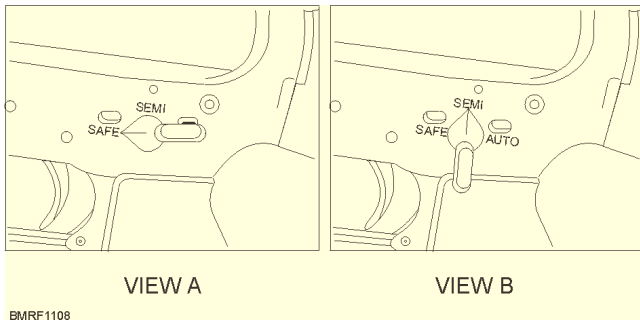
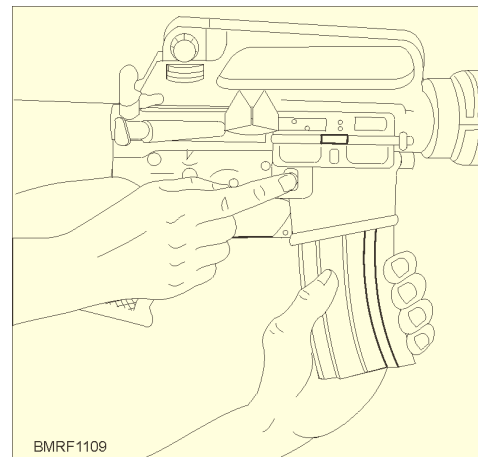
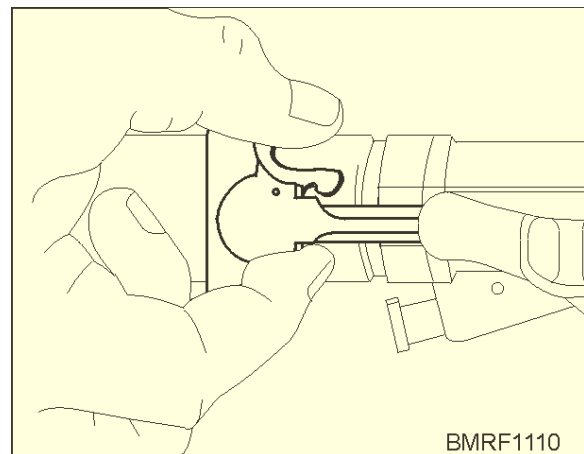
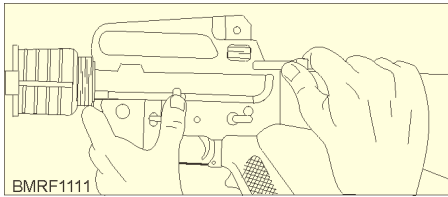

Figure 11-8.—Selector lever pointing to SAFE.
Figure 11-9.—Removing the magazine.
Figure 11-10.—Pulling the charging handle rearward.
Figure 11-11.—Locking the bolt open.
1. Point the selector lever toward SAFE (fig. 11-8, view A). If the weapon is not cocked, the selector lever cannot be pointed toward SAFE. If that is the case, do
2. Remove the magazine (fig. 11-9). Grasp the magazine with the left hand (fingers curled around the front of the magazine, thumb placed on the magazine catch button). Use your right hand and apply pressure on the magazine catch button with the thumb and pull the magazine straight out of the weapon.
3. Lock the bolt open (figs. 11-10 and 11-11). Grasp the charging handle with the thumb and forefinger of the right hand, depress the charging handle, latch it with the right thumb, and pull to the rear (fig. 11-10). When the bolt is fully rearward, press the bottom of the bolt catch with the thumb or forefinger of the left hand (fig. 11-11). Allow the bolt to move slowly
With the hammer cocked, place the selector lever on SAFE. (Refer to figure 11-8, view A.) Notice that you can't place the selector lever on SAFE unless the rifle is cocked. You may insert the magazine with the bolt and bolt carrier open or closed; however, you should learn to load with the bolt open. Loading with the bolt open reduces the possibility of first round stoppage and saves the time needed to pull the charging handle to the rear.
muzzle in a safe direction. With your left hand, insert the loaded magazine into the magazine housing. Push upward until the magazine catch engages and holds the magazine. Rap the base of the magazine sharply with the heel of your hand to ensure positive retention. If the action is open, release the bolt by depressing the upper portion of the bolt catch with the thumb of your left hand, allowing the action to close, chambering the round. If the action is closed when the magazine is inserted, pull the charging handle fully to the rear with your right hand and release it. (Refer to figure 11-10.)
The rifle fires semiautomatic or burst (automatic for the M16A1) when you move the selector lever to the desired position. (Refer to figure 11-8.) With the selector lever in the semiautomatic position, the rifle fires one round each time you pull the trigger. With the selector lever in the burst position, the M16A2 fires in short bursts of three rounds. (**NOTE:** The M16A1 rifle fires fully automatically and will continue to fire until the magazine is empty or you release the trigger.) When the rifle is fired in either SEMI or BURST or AUTOMATIC, the bolt locks in the open position when the last round from the magazine has been fired.
As you read this section, refer back to figures 11-8, 11-9, 11-10, and 11-11. To unload the rifle and make it safe, place the selector lever on the SAFE position (fig. 11-8); and remove the magazine by pressing the magazine release button (fig. 11-9). Pull the charging handle to the rear (fig. 11-10), ejecting any round from the chamber. Inspect the chamber and receiver to ensure that it is clear. Releasing the charging handle will allow the bolt to close. To keep the bolt open, depress the lower portion of the bolt catch before returning the charging handle forward (fig. 11-11). The rifle is clear only when the following conditions exist: